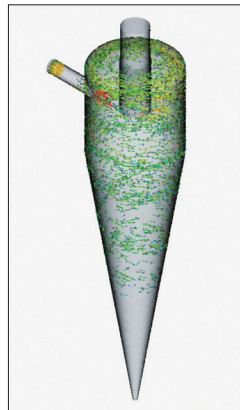

Figure 5: Particle behavior
- Figure 5 shows the analysis result of the behavior of sand particles with a diameter of 100 [µm]. The behavior of the particles is shown using velocity vectors until 7 seconds after the analysis starts. The particles flow in with the raw water, move downward along the separator wall, and flow out with the drain.